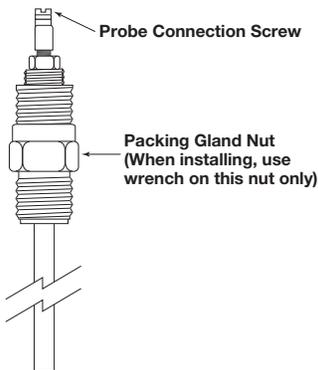
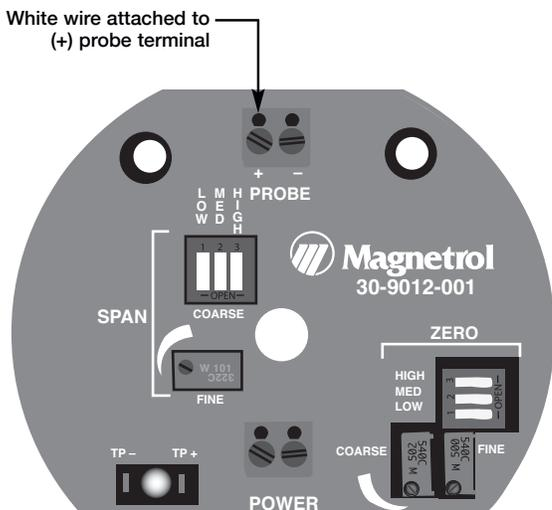
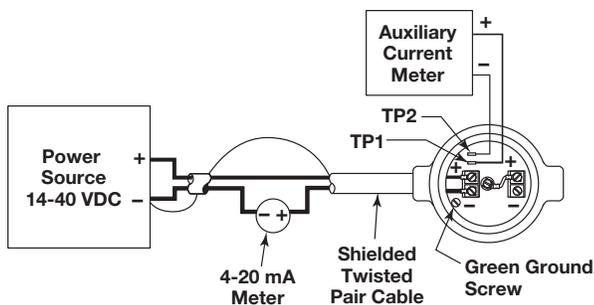

Figure 1
Figure 3
Figure 5
1. Thread the probe into the mounting connection on the vessel. Tighten securely, making sure that the wrench is applied **ONLY** to the mounting nut. Refer to Figure 1.
1. Remove the housing cover. Locate the white wire which is fastened to the (+) probe terminal. Refer to Figure 3. Connect the free end of this wire to the probe connection screw. Refer to Figure 1.
- Remove the transmitter housing cover. Connect the positive lead of the interconnection cable to the (+) probe terminal. Connect the negative lead and shield to the (-) probe terminal. Refer to Figure 3 on page 6.
3. Remove the transmitter housing cover. Connect the positive lead of the interconnection cable to the (+) probe terminal. Connect the negative lead and shield to the (-) probe terminal. Refer to Figure 3 on page 6.
2. Connect the positive supply wire to the (+) terminal and the negative supply wire to the (-) terminal. Connect the shield to the green ground screw at the base of the housing. Make the shield wire as short as possible. Refer to Figure 3 on page 6, and Figure 5.